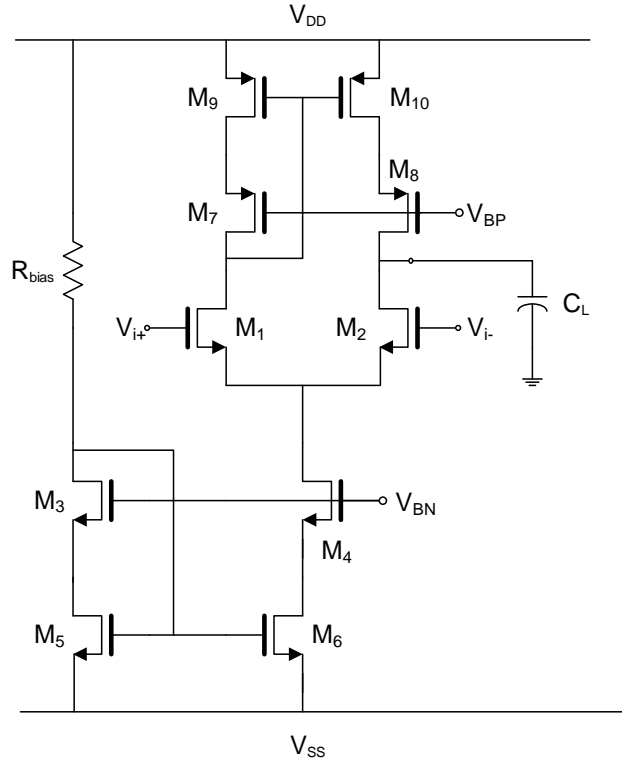

Figure 6-7: Differential Amplifier with Cascode Current Mirror as the Active Load and Tail Current
The second differential amplifier is shown in Figure 6-7. This circuit utilizes low-voltage cascode current mirrors as the tail current source and the active load. The design equations for this structure are the same as the previous structure except the output impedance of the amplifier and current source are now larger. This will increase differential mode gain while decreasing common mode gain, thus a vastly improved CMRR. The main drawback of this circuit is a reduced input common mode range and output swing.
3. Design the differential amplifier with cascode current mirrors in Figure 6-7 to obtain the following specifications: